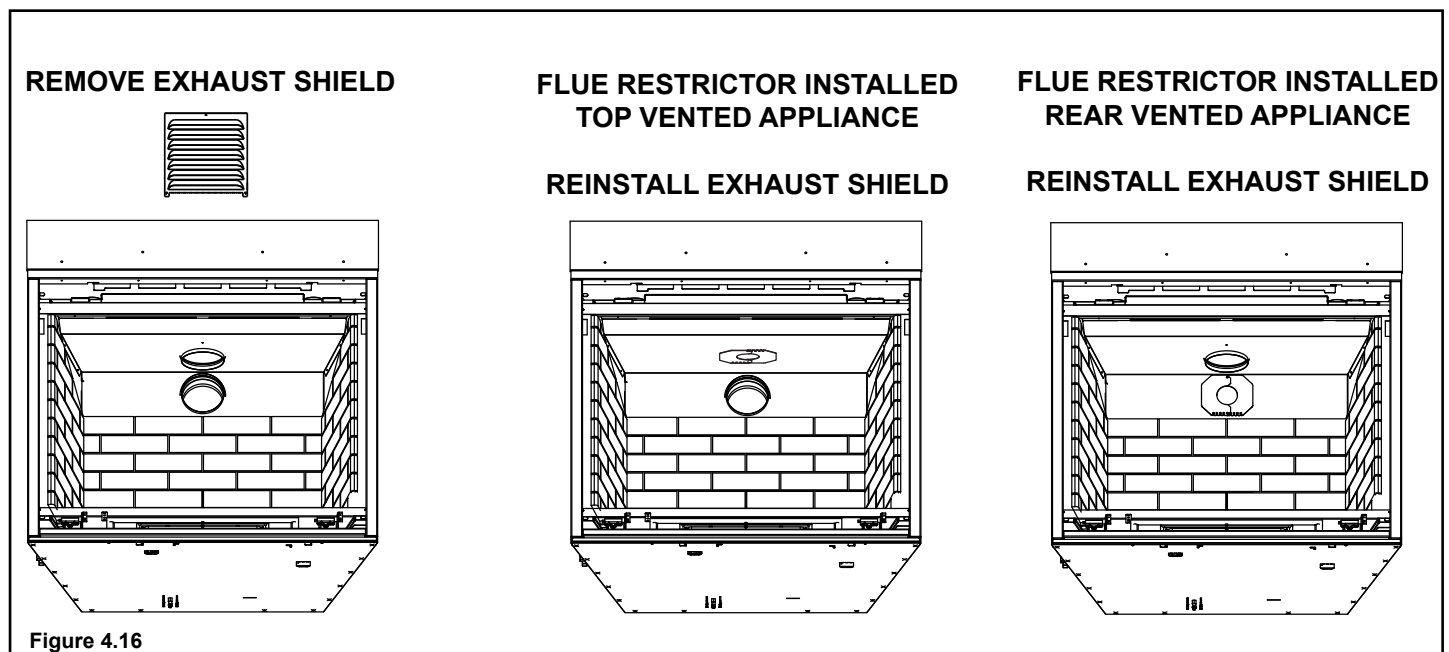

Figure 4.16
1. Remove the exhaust shield. See Figure 4.16.
4. Center the two flue restrictor pieces on the vent at the setting selected in step 3 and secure in place by using two self-tapping screws. See Figure 4.16.